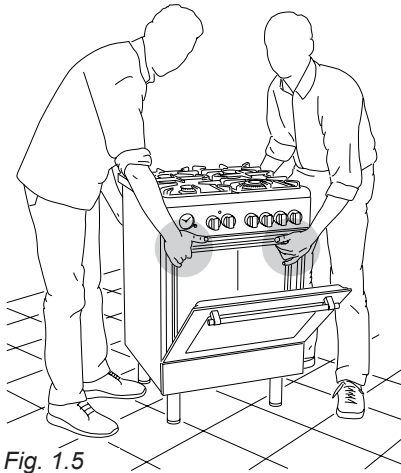

Fig. 1.5
**WARNING:** When raising cooker to upright position always ensure two people carry out this manoeuvre to prevent damage to the adjustable feet (fig. 1.5).
When moving cooker to its final position **DO NOT DRAG** (fig.1.7). Lift feet clear of floor (fig. 1.5).